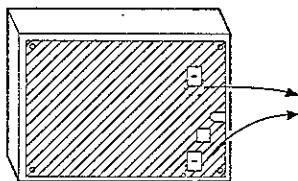

Fig. 4
- ① Choose a flat table.
- ② Lay down the drawer so that the left side faces downward.
- ③ With the cushion areas of the fixtures directed to the drawer bottom, insert them in two holes at the left side (looking from the front) so that the drawer bottom plate can be inserted in the U-shaped grooves of the fixtures. These fixtures must be fitted in the same direction and level. (See Fig. 4)